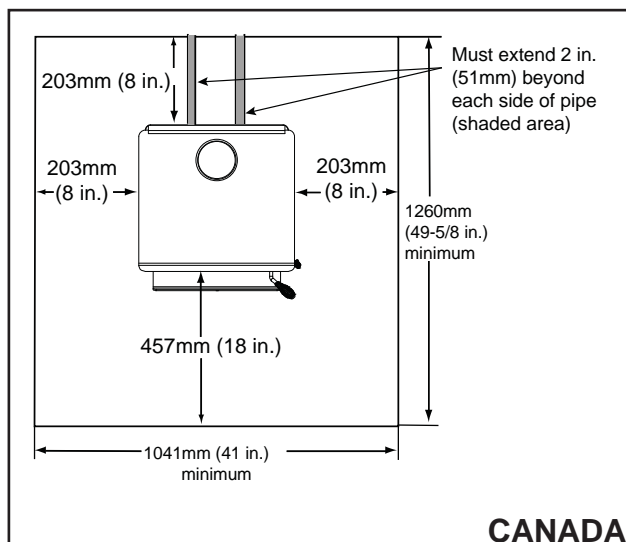

Figure 12.2
***EXCEPTION:** Non-combustible floor protections must extend beneath the flue pipe when installed with horizontal venting and extend 2 inches (51mm) beyond each side. **See Figure 12.2.**